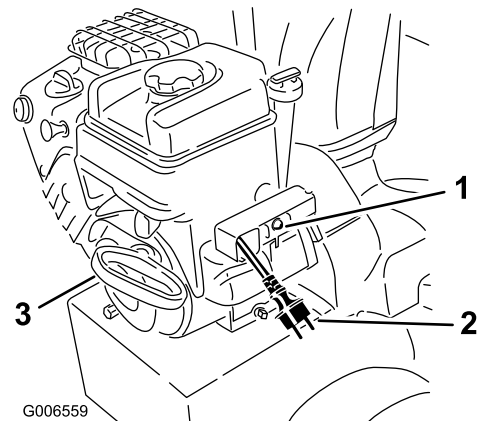

Figure 30
7. Start the machine pulling the recoil starter or pressing the electric-starter button (Figure 30).